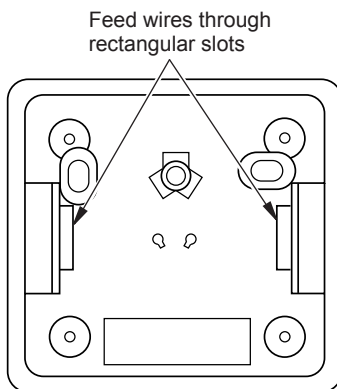

Figure 35 - Back View of Thermostat Base
6. Feed electrical wires through the rectangular slots (from the back) on each side of the base (see Figure 35).